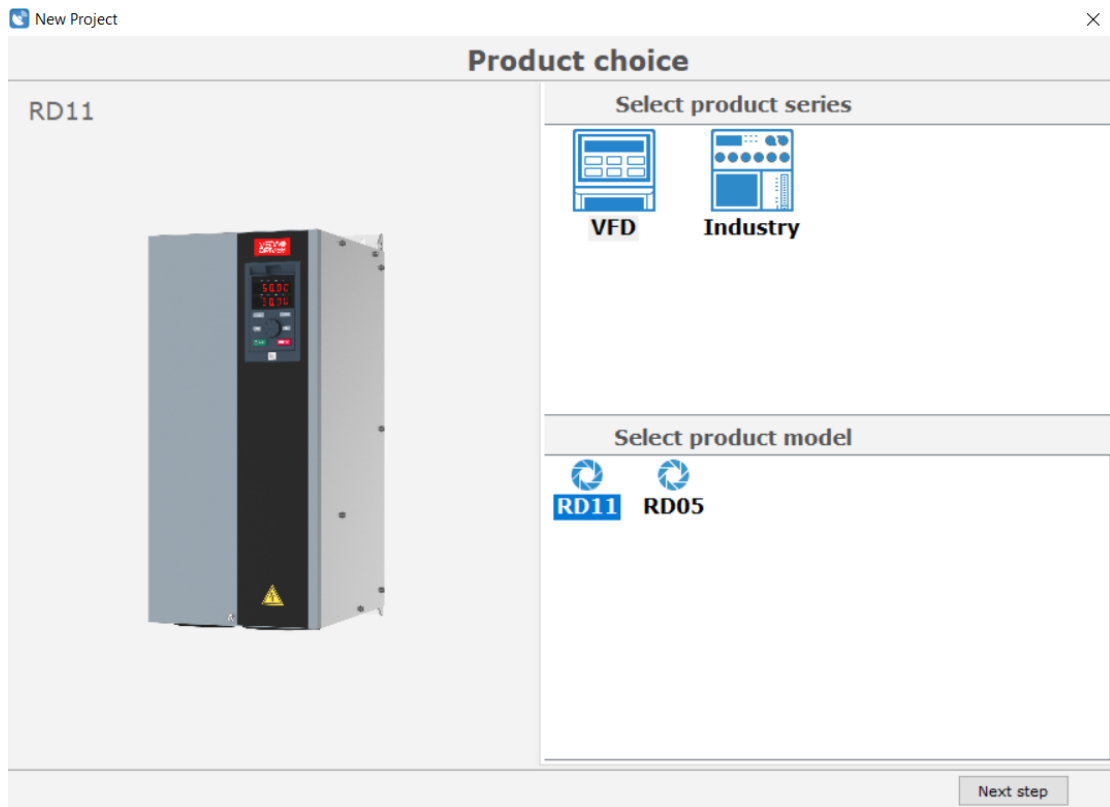

Figure 2
1. Click Menu bar [Project] -> [New]. As shown in figure 2 below.